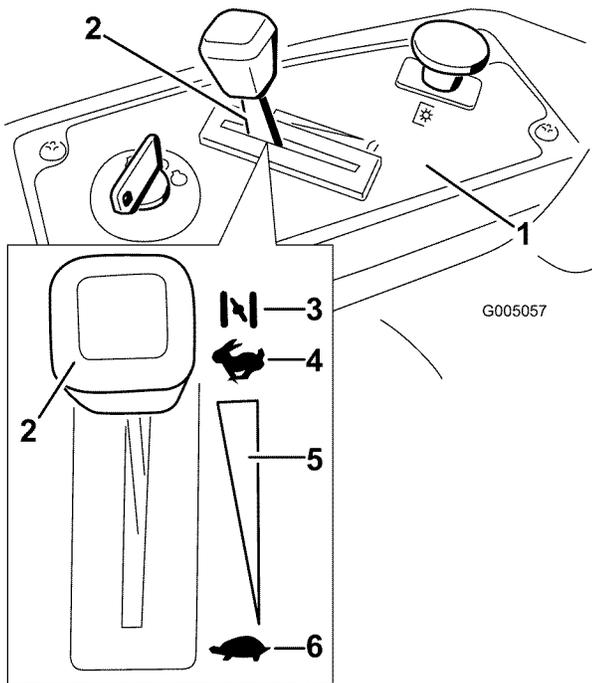

Figure 11
- 3. Move the throttle lever to Choke before starting a cold engine (Figure 11).
- 5. After the engine starts, move the throttle lever to Fast (Figure 11). If the engine stalls or hesitates, move the throttle lever back to Choke for a few seconds. Repeat this as required.
3. Turn the ignition key to Off (Figure 11) and remove the key.